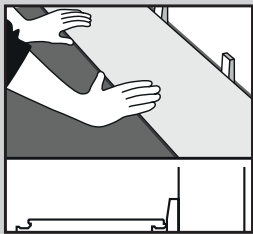

Fig. 1
1. Starting with a full plank/tile along the wall, calculate how many widths there are across the room. If this means there will be a row of narrow planks/tiles along the opposite wall, cut the first row accordingly. Install this product with the tongue side/cut edge facing the wall. Install 5 mm spacers between the plank/tile and wall (Fig. 1).